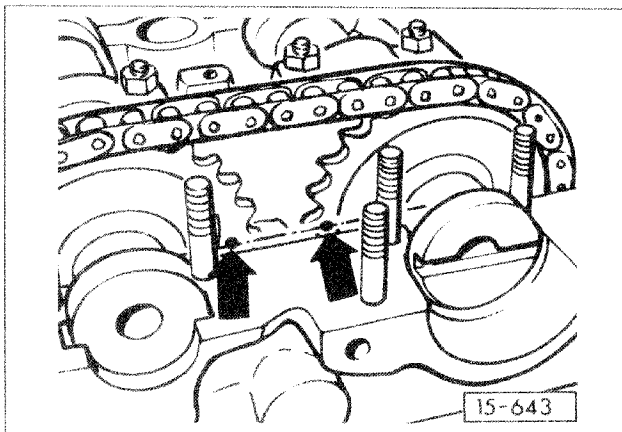

Fig. 4-13. Camshaft drive chain sprockets correctly aligned in 16-valve cylinder head.
6. Installation is the reverse of removal. Install the camshafts and the drive chain so that the markings on the chain sprockets face each other and align with the top of the cylinder head, as shown in Fig. 4-13.